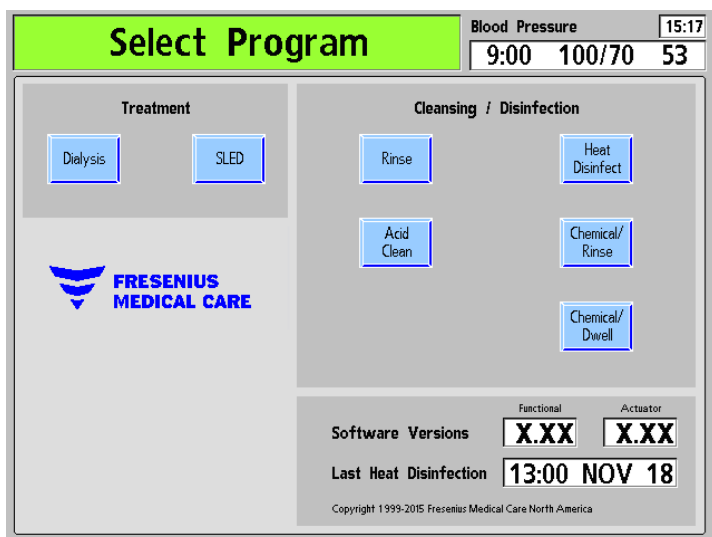

Figure 19 – The Select Program Screen
1. Press the **POWER** key on the control panel. The green light above the key will light, and the “Select Program” screen (see Figure 19) will appear on the monitor after approximately one minute.